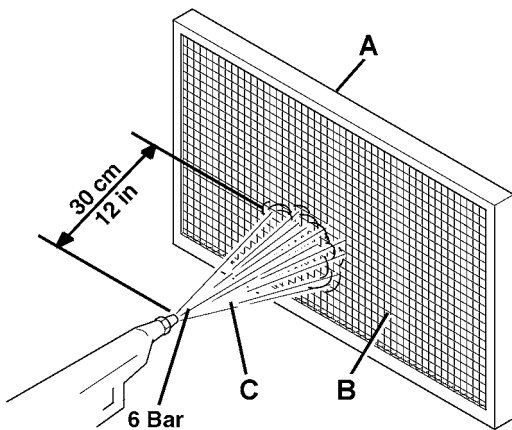

Figure 14
8. In an outdoor area, clean the filter by shaking it on a level and clean surface, tapping the side (A, Fig. 14) opposite to the wire gauze (B).
- Install the filter with the wire gauze (B, Fig. 14) facing upwards.